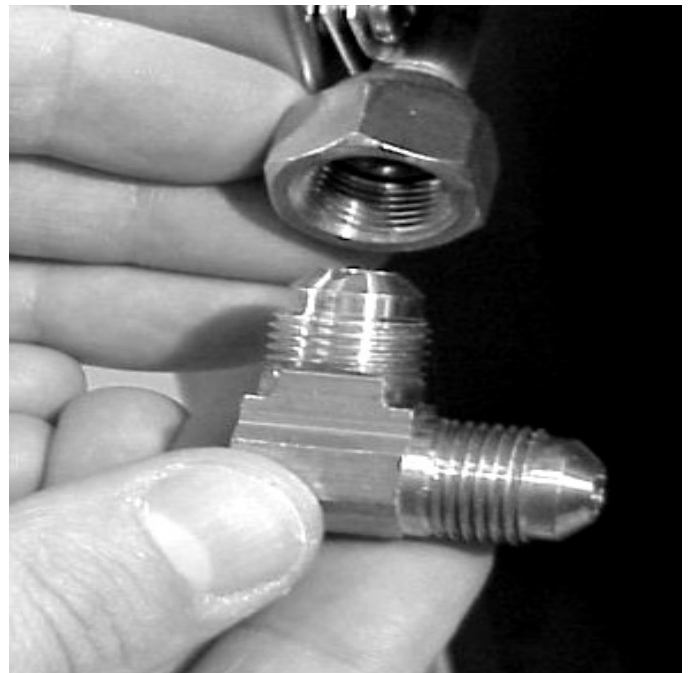

Figure 14 Brass Elbow
1. If you have a portable model, connect 3/8" X 3/8" flare elbow fitting from either the 16" or 20" LP hose or the 12 foot gas hose to flare fitting on the feedline at back of pedestal (see Figs. 14, 15, & 16). This is a brass to brass connection. **DO NOT USE ANY PIPE SEALER. DO NOT CROSS THREAD. TIGHTEN SECURELY.**